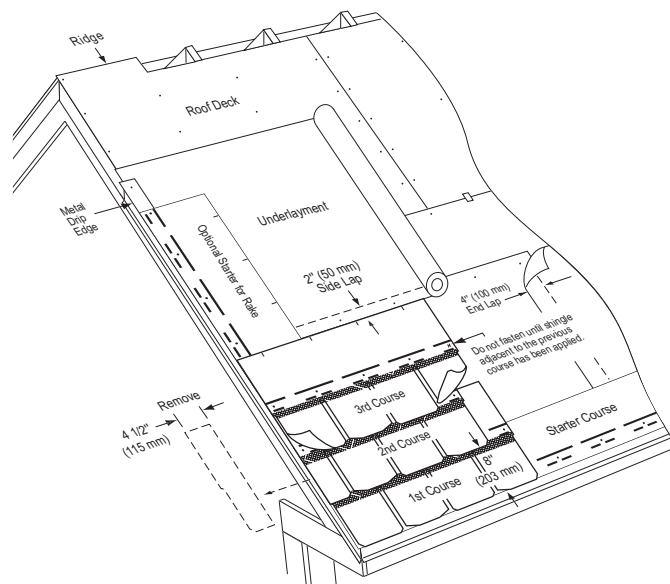

Figure 16-6: Applying the first three courses on a standard slope.
**1ST COURSE:** (Figure 16-6). Apply a full Highland Slate shingle at the lower left corner of the roof, flush with the starter course left corner. Fasten with 5 nails.
**2ND COURSE:** (Figure 16-6). Cut  $4\frac{1}{2}$ " off the left end of a full shingle and apply remaining  $31\frac{1}{2}$ " piece over left edge of 1st course. Fasten with 5 nails and ensure 8" exposure.
**SUCCEEDING COURSES:** Begin application of the 3rd course with a full shingle. Fasten with 4 nails, **leaving the right end unfastened until later.** (Figure 16-6). Begin the 4th course using a shingle with  $4\frac{1}{2}$ " cut off its left end. (Figure 16-7, A). Fasten with 5 nails. To begin the application of subsequent courses, alternate full shingles [36"] and cut shingles [31-1/2"] up the rake edge, fastening as described above. (Figure 16-7, A).